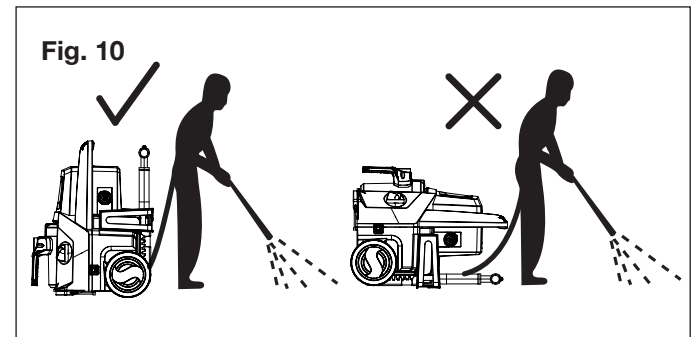

Fig. 10
2. The washer must be used on a secure and stable surface in a standing, upright position (Fig. 10).